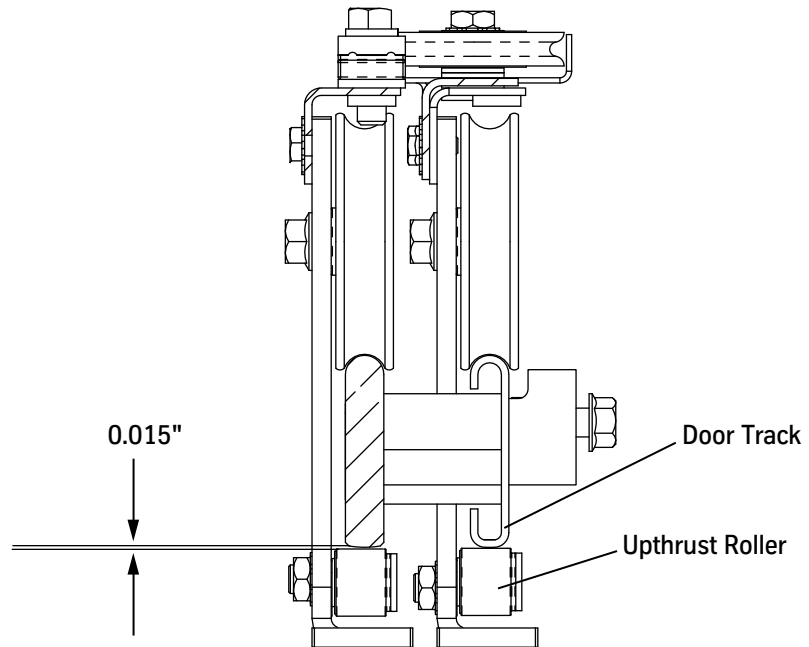

Figure 39 - Adjust Upthrust Roller Clearance
2. Adjust the eccentric so that a gap of 0.015" is between the upthrust roller and the door track. See Figure 39.